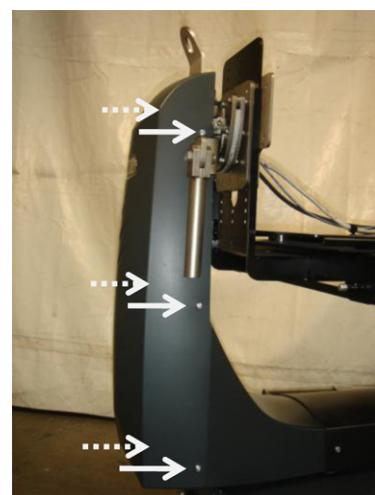
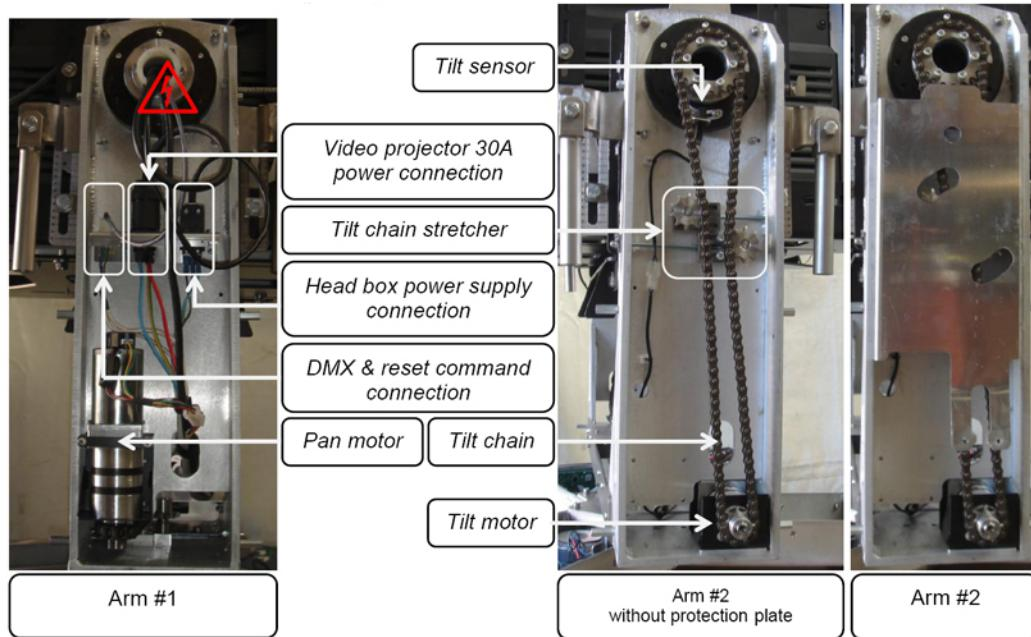

Figure 2-4 Vertical Cover Removal
Figure 2-5 Vertical Components
1. Remove 6 screws from the vertical covers on both ends of the arm as shown in **Figure 2-4**. This provides access to the components in **Figure 2-5**.